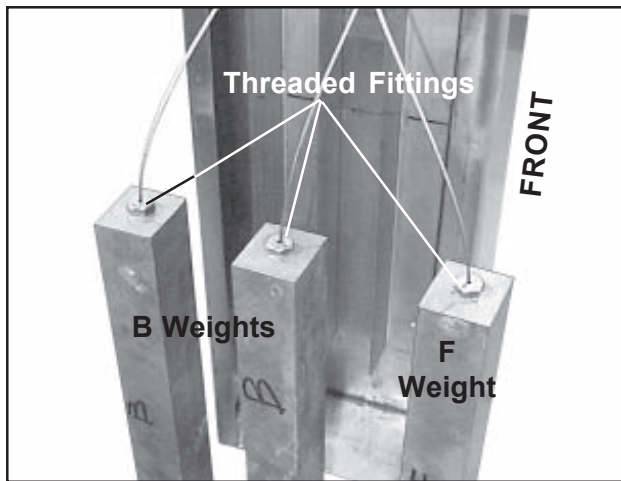

Figure 12. Weights Attached to Threaded Fittings
3. Place each weight into the column between the appropriate guides (Figure 12).